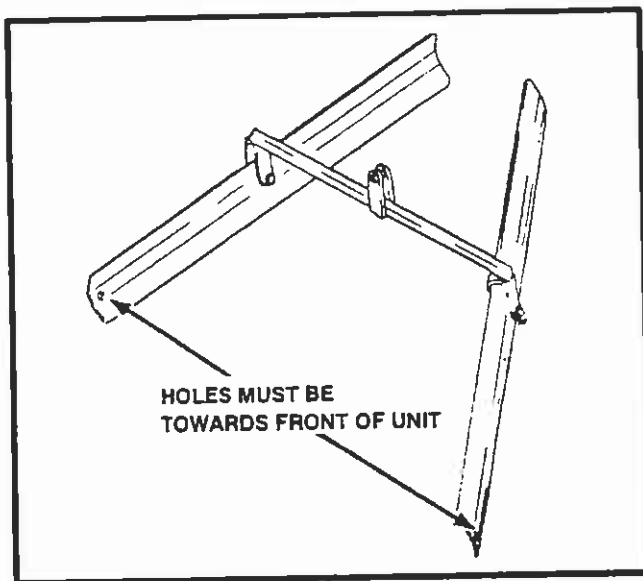

FIGURE 10
- If windrow attachment is missing some cores, check for proper assembly. See Figure 10.